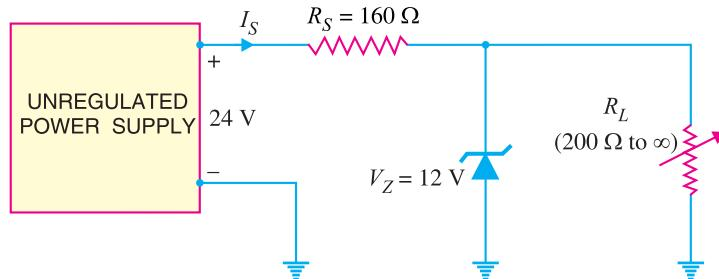

Fig. 17.11
**Example 17.8.** Fig. 17.11 shows the zener regulator. Calculate (i) current through the series resistance (ii) minimum and maximum load currents and (iii) minimum and maximum zener currents. Comment on the results.